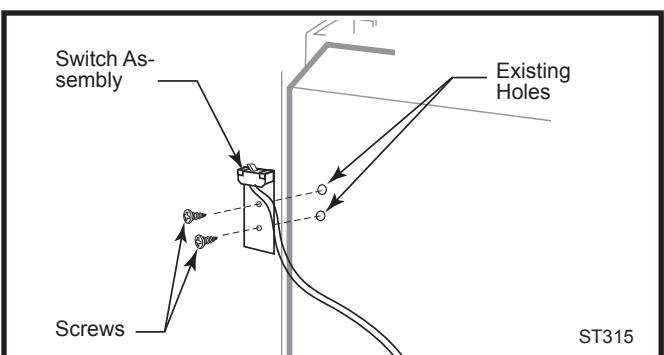

Fig. 16 Attach switch assembly to rear shroud.
- Attach switch assembly to left rear side of stove shroud using two screws and existing holes in shroud. (Fig. 16)